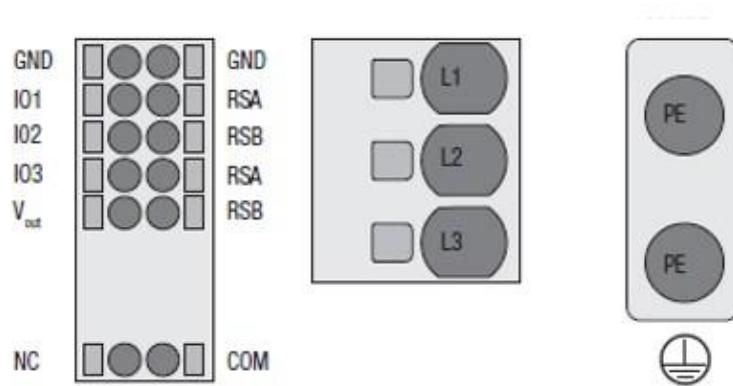
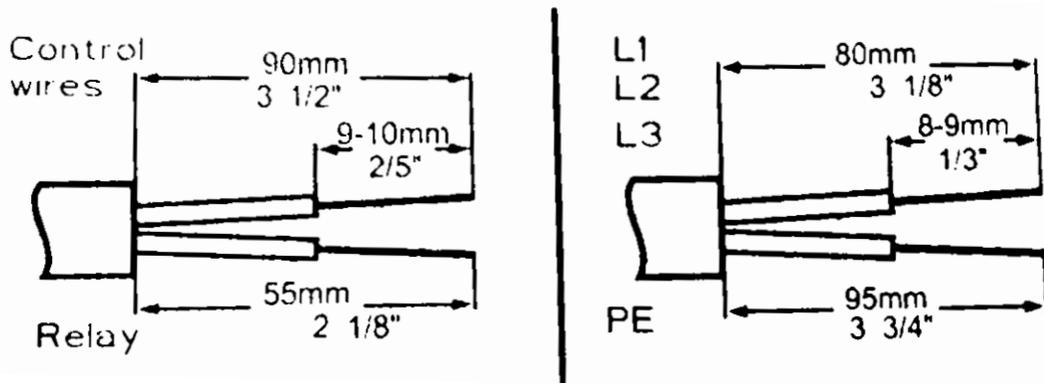

Figure 17. Terminal Block Diagram
Figure 20. Wire Insulation Stripping Diagram
4. Remove caps from the cable glands. Label and remove wiring from terminal blocks shown in **Figure 17**. Carefully tag these wires properly to ensure that they are connected at the same location on the new fan. These wires carry polarity sensitive signals.
11. Wire terminal blocks shown in **Figure 17** following the wire labels created in **Step 4**. Refer to **Table 5** for more information on connection designations. Ensure wires are properly stripped according to **Figure 20**.